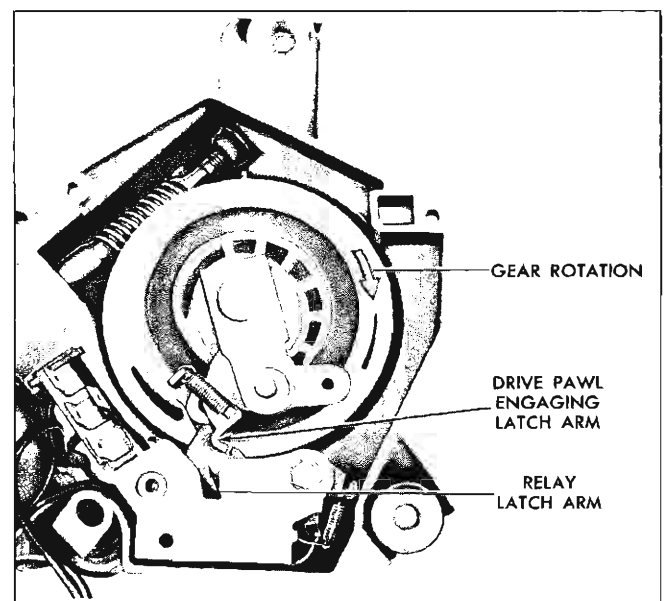
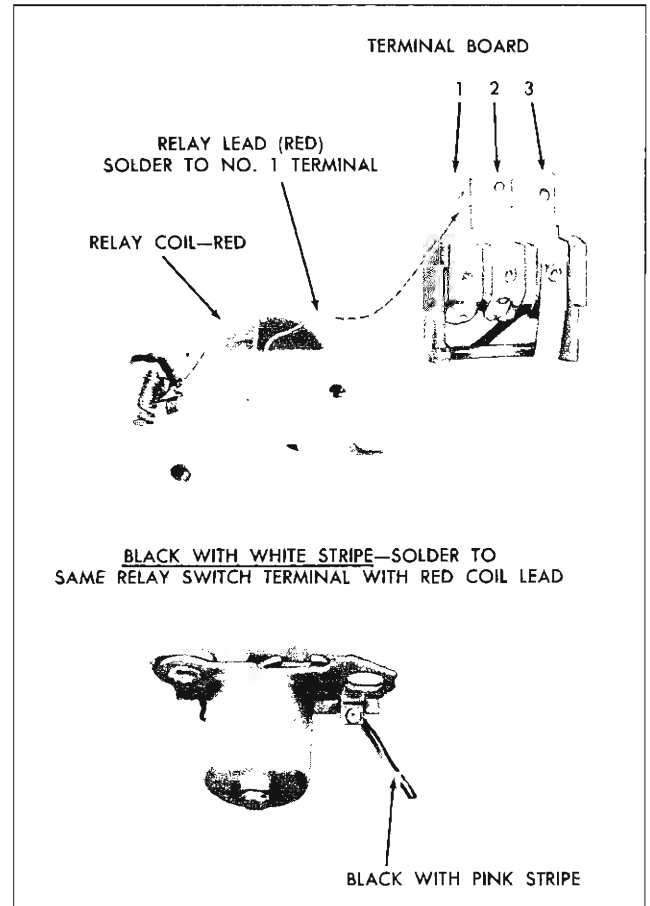

Fig. 65—Relay Assembly
Fig. 67—Relay Assembly Wiring
3. Remove relay-switch attaching screw (fig. 65) and carefully lift the relay-switch assembly out of the gear box. Unsolder leads from switch terminals as required. Refer to Figure 67 when resoldering leads.
1. Resolder leads to wiper terminal board as required (fig. 67).
3. Resolder leads to relay switch assembly as required (fig. 67).